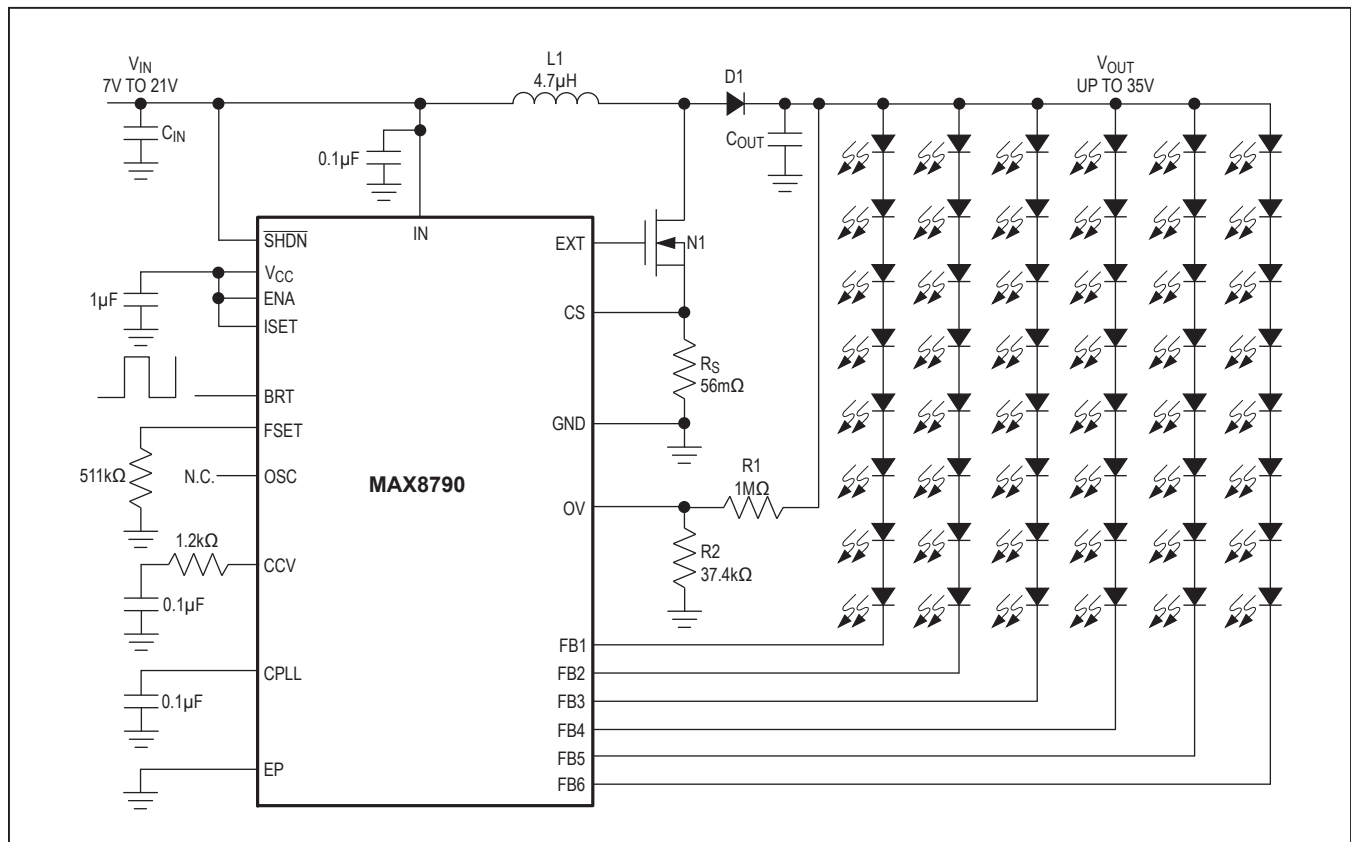

Figure 1. Typical Operating Circuit
Electrical Characteristics (continued)(Circuit of Figure 1. $V_{IN} = 12V$, $V_{SHDN} = V_{IN}$, $CCV = 0.1\mu F$, $T_A = -40^{\circ}C$ to $+85^{\circ}C$, unless otherwise noted.) (Note 2)
To protect the step-up converter when the load is open, or the output voltage becomes excessive for any reason, the MAX8790 features a dedicated overvoltage feedback input (OV). The OV pin is connected to the center tap of a resistive voltage-divider from the high-voltage output (see Figure 1). When the MAX8790 is powered up, if none of the LED strings on FB1–FB6 are connected to the step-up converter output, the step-up converter regulates the output voltage to $V_{OUT} = 1.23V(1 + R1 / R2)$. When V_{OV} exceeds 1.23V, a comparator turns off N1. The step-up converter switch is reenabled after the output voltage drops below the protection threshold.